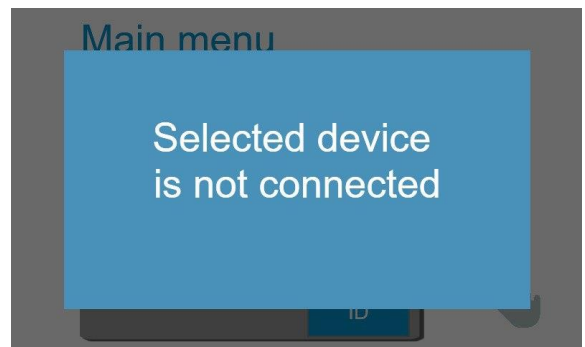

Figure 15 – CAN ID menu
8. If you tap on an additional device whose CAN ID is entered but device with such CAN ID isn't connected, an error message will appear (Fig. 15).